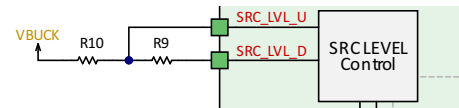

Figure 7: `SRC_LVL_U` and `SRC_LVL_D` connections
With the resistive divider shown in Figure 7, the AEM0094x measures $V_{SRC_LVL_U}$ by connecting **SRC_LVL_D** to **GND** internally. This evaluation is performed every $T_{VSRC_REG,UPDATE}$ (20 s).
- a resistive divider, as shown in Figure 7, calculated as follows: